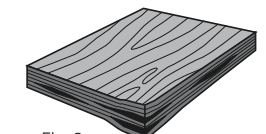

Fig. 8
**Edge Splits** - A separation of the narrow edge of the beam usually caused by forklift damage. A diagonal split may be caused by overloading. Probe the split to determine the depth; shallow weather checks are acceptable. If an open split is detected, remove the beam from service. (Fig. 8)